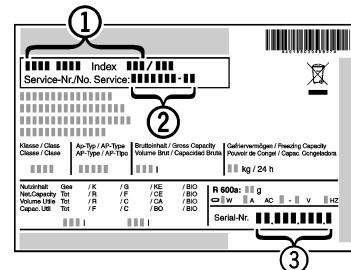

Fig. 12
- Read off the appliance name *Fig. 12 (1)*, service no. *Fig. 12 (2)* and serial no. *Fig. 12 (3)* from the model plate. The model plate can be found on the inside of the appliance on the left.
- Notify our customer service team and give them the error, the appliance name *Fig. 12 (1)*, service no. *Fig. 12 (2)* and serial no. *Fig. 12 (3)*